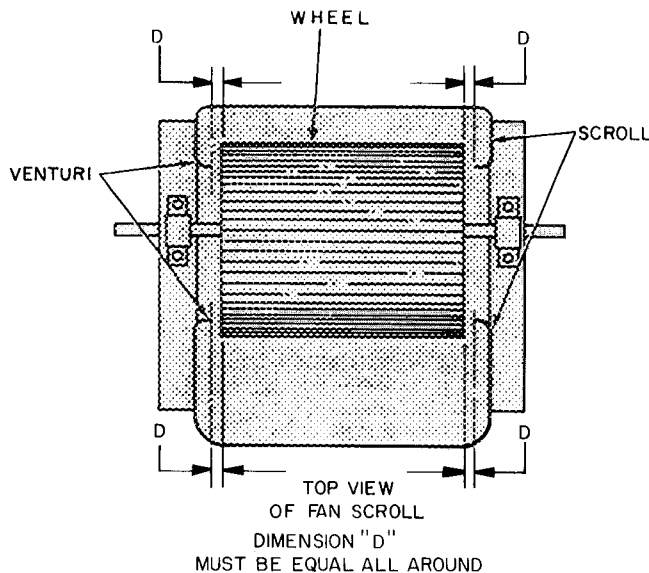

Fig. 10 — Horizontal Wheel Centering
HORIZONTAL WHEEL CENTERING — All wheels must be horizontally centered between the inside edges of their fan scroll venturis (Fig. 10).
2. Center the wheel by sliding it horizontally (Fig. 10).
2. Center wheel by sliding it horizontally (Fig. 10).
2. Slide shaft and wheel assembly horizontally until wheels are horizontally centered (Fig. 10).